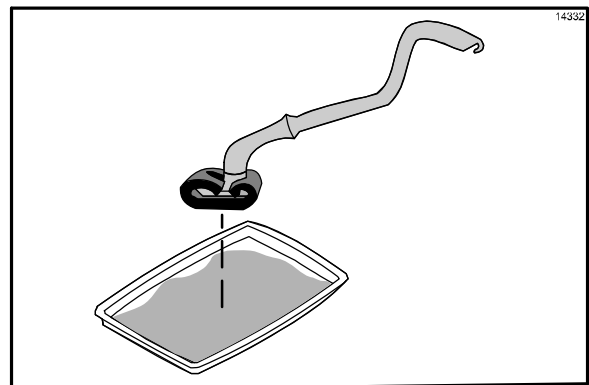

Figure 79
- Dip the Kay Grill Cleaning Pad Holder into the grill cleaner. (See Figure 79.)